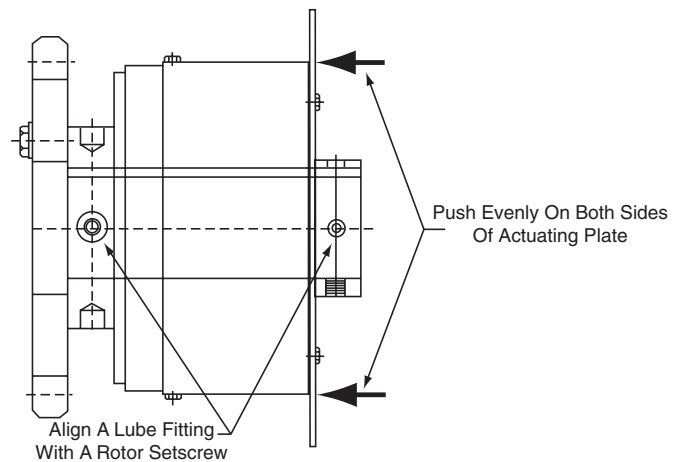

Figure 7
2. After the clutch has disengaged, it can be reset in multiple positions. There are four tapped holes on the O.D. of the rotor and two lube fittings on the O.D. of the housing as shown in Figure 7.
4. After the proper position has been established, push/pull evenly on both sides of the limit switch actuating plate as shown in Figure 7. When the clutch is properly reset, the steel balls will move back into their pockets and the cover and reset plate will return to their original positions. An audible sound will be detected when the clutch re-engages.